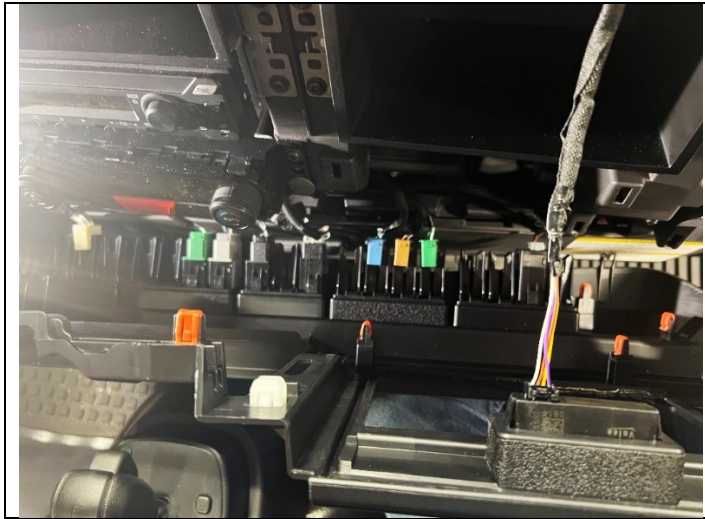

Figure 23
31. Hold the center cluster in place and connect all the connectors that were disconnected in Step 11. (See Figure 23.)